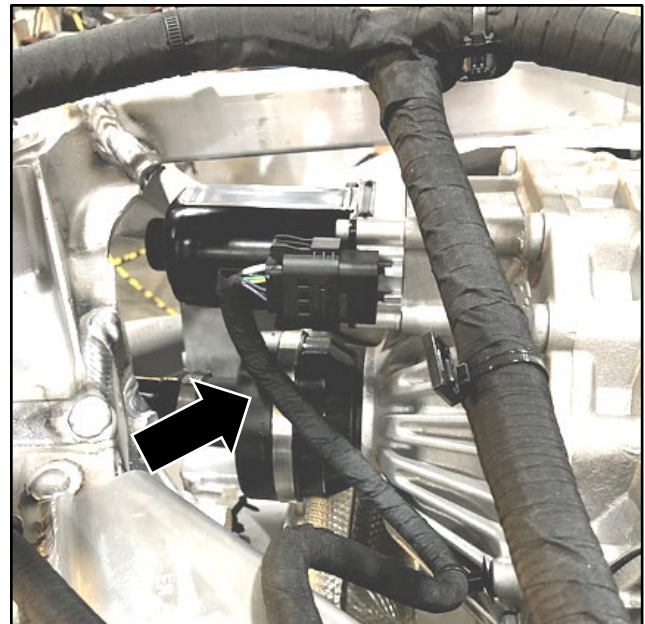

Figure 1
4. Do a check for damage to the active-differential wiring loom. Damage can occur where the loom touches the drive shaft (refer to Figure 1).